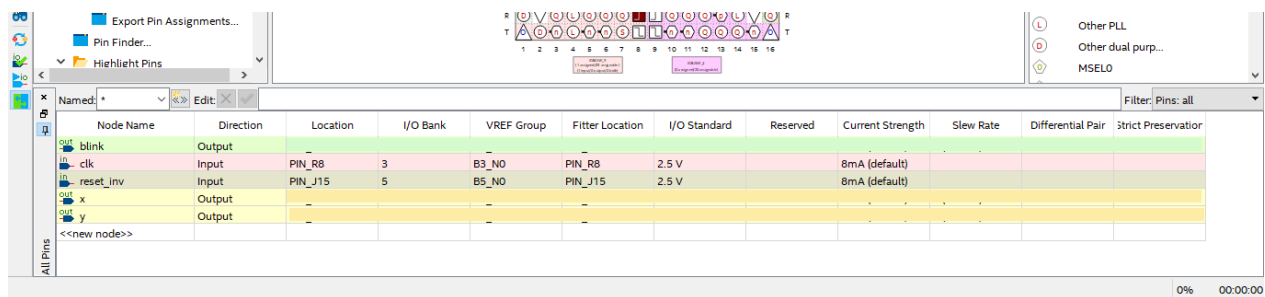

Figure 6.9: Pin Planner
**Task 15.** After compiling the top-level entity *sequence\_detector\_top*, click **Assignments > Pin Planner** from the menu bar to open the pin planner. Based on Table 6.2, assign the pins by specifying the pin name under the **Location** column of the table displayed at the bottom of the window (see Figure 6.9). Once the assignment is complete, close the pin planner and compile the module once again.